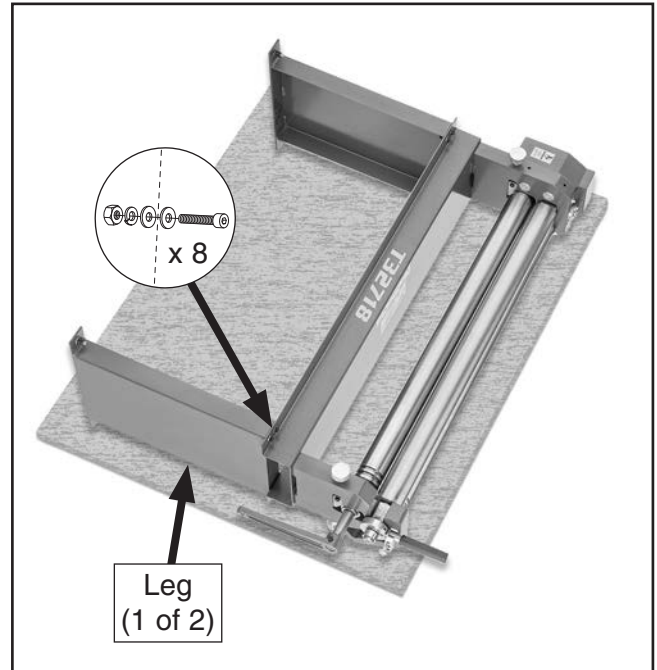

Figure 6. Legs attached to slip roll.
4. With help from assistants, move slip roll off of pallet and onto crate top and orient it on its side so model number label faces up (see **Figure 6**).
5. Attach (2) legs to slip roll, as shown in **Figure 6**, with (8) M8-1.25 x 25 cap screws, (16) 8mm flat washers, (8) lock washers, and (8) M8-1.25 hex nuts.